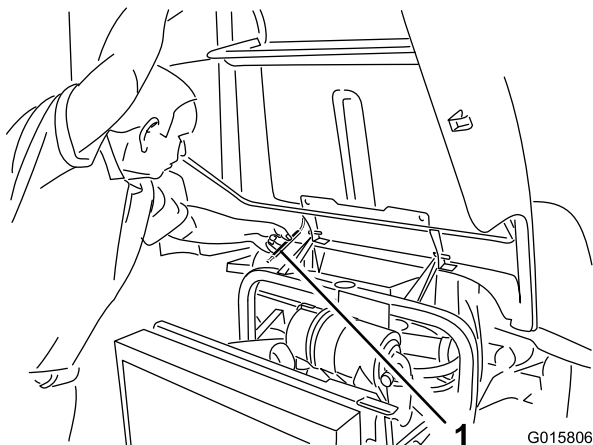

Figure 29
2. Lift up on the hood until the prop rod can be positioned behind the frame tube (Figure 29).